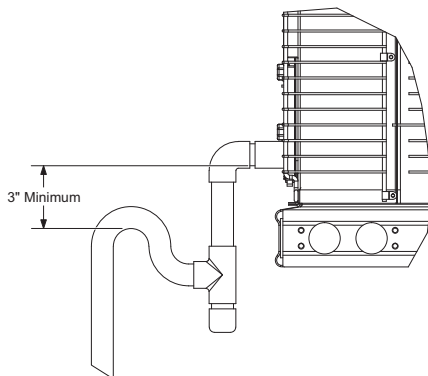

Figure 19: Condensate drain
1. Trap the connection according to Figure 19.